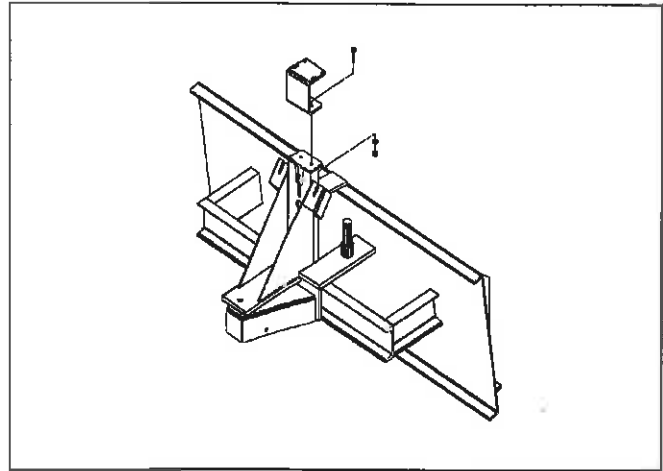

figure 7
3. If not installed, attach the check valve plate to the top of the quick attach mounting (figure 7). Use 2, 3/8-16 x 1 1/4 in. cap screws, lock washers and nuts.